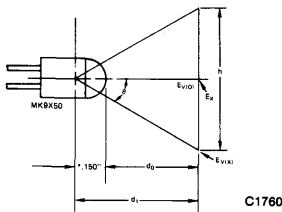

Fig. 12. Lamp to Legend Mechanical Relationship
1. Edge of legend to center of legend illuminance ratio ($E_{v(x)}/E_v(0)$) (Figure 12.)